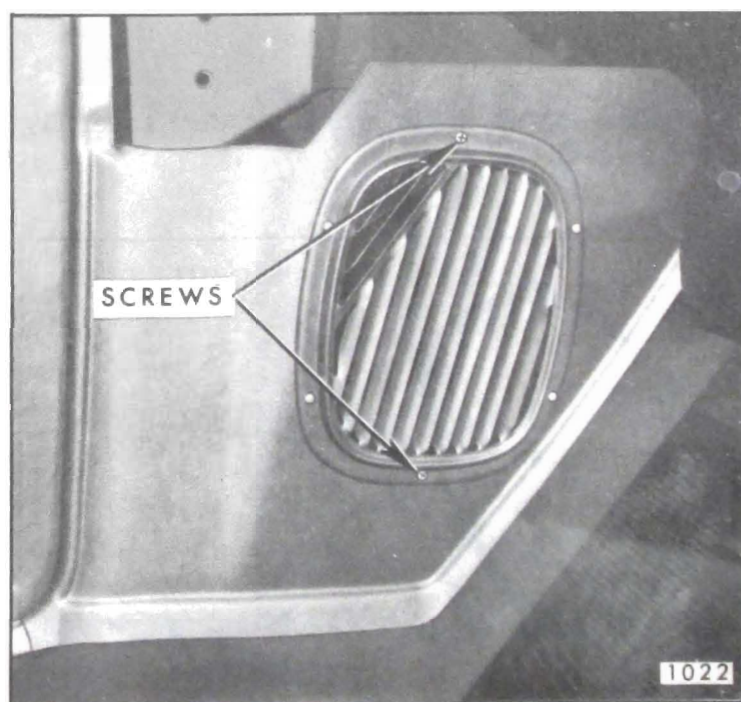

Fig. 3-1—Shroud Side Finishing Panel
1. Remove sill plate and screws securing finishing panel and grille to outlet (Fig. 3-1).